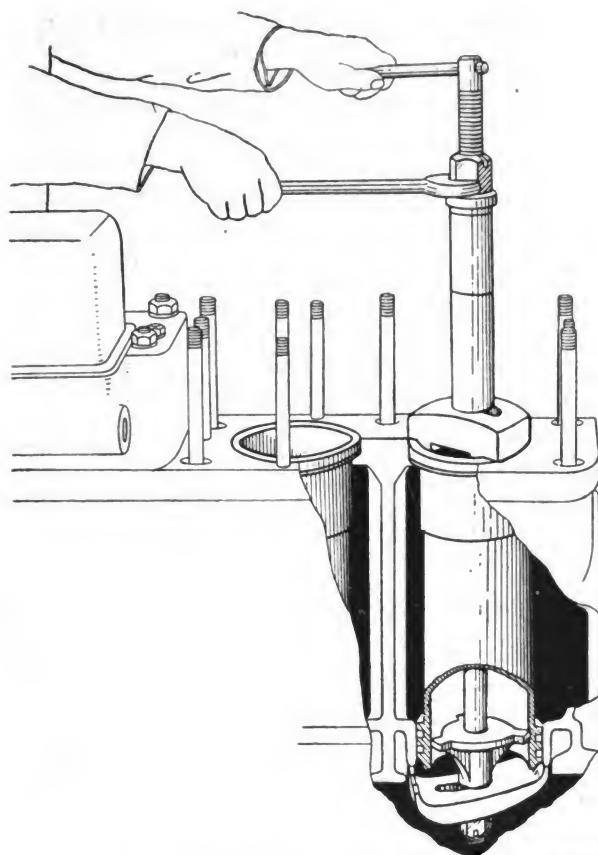

FIGURE 32.—Installing liner.
(2) Each liner installed (fig. 32) should have a new copper gasket at the top between the flange on the liner and the cylinder block, and new rubber seals in the grooves at the bottom of the liner to prevent water leaks.
(3) Coat exposed portion of the rubber seals with a mixture of soapstone and glycerin or soap and water before installing the liner to avoid damaging the seals.
(4) Thoroughly clean upper and lower sealing surfaces of the block and cylinder liner.